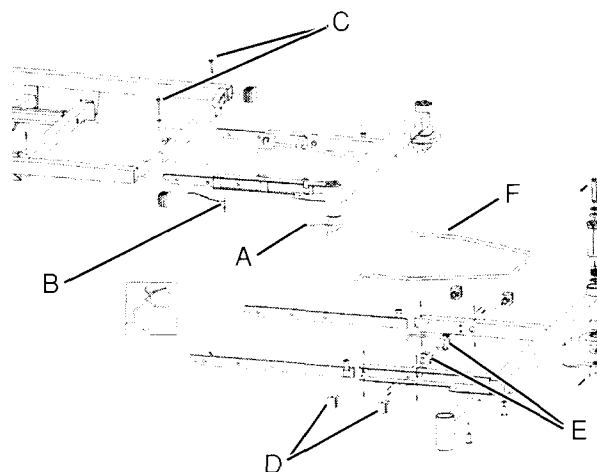

Figure 1
5. Remove the foot board of the bed by moving down the two cams (A) which attach the board so that they are in vertical position and lift the board up.
8. Using the 13 mm open end wrench, loosen and remove the two screws (C) that secures the bed extension to the bed frame while holding the latter (see figure 1).
10. Using a Phillips screwdriver, unscrew the screws holding the four bed extension rail guides (D) located on the right and on the left of the rail. (see figure 1).
11. Using a Phillips screwdriver, unscrew the screws holding the two guides (E) of the bed extension control handle (F). (See figure 1)
Note: The guide openings (E) are oriented from the exterior to the interior of the bed extension in an upward position (see figure 1).